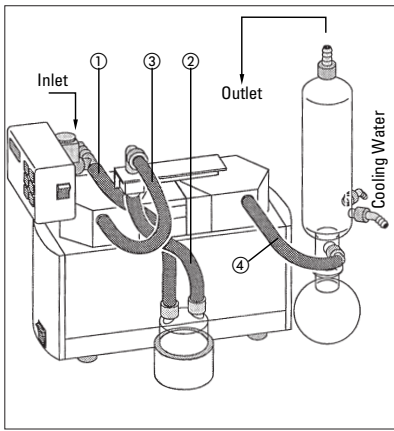

Fig. 11: Tubing System SC...
- ① Approx. Tube length 220 mm
- ② Approx. Tube length 150 mm
- ③ Approx. Tube length 300 mm
- ④ Approx. Tube length 220 mm
- ①-④ Tube-inside diameter 10 mm
- ⑤ Tubing of two-headed pumps: see figure 11. For tubing of single-headed pumps and pumps with aluminum heads (pump types including an „A“ in the type code), please contact KNF. Choose tube material which is resistant against the media to be used.